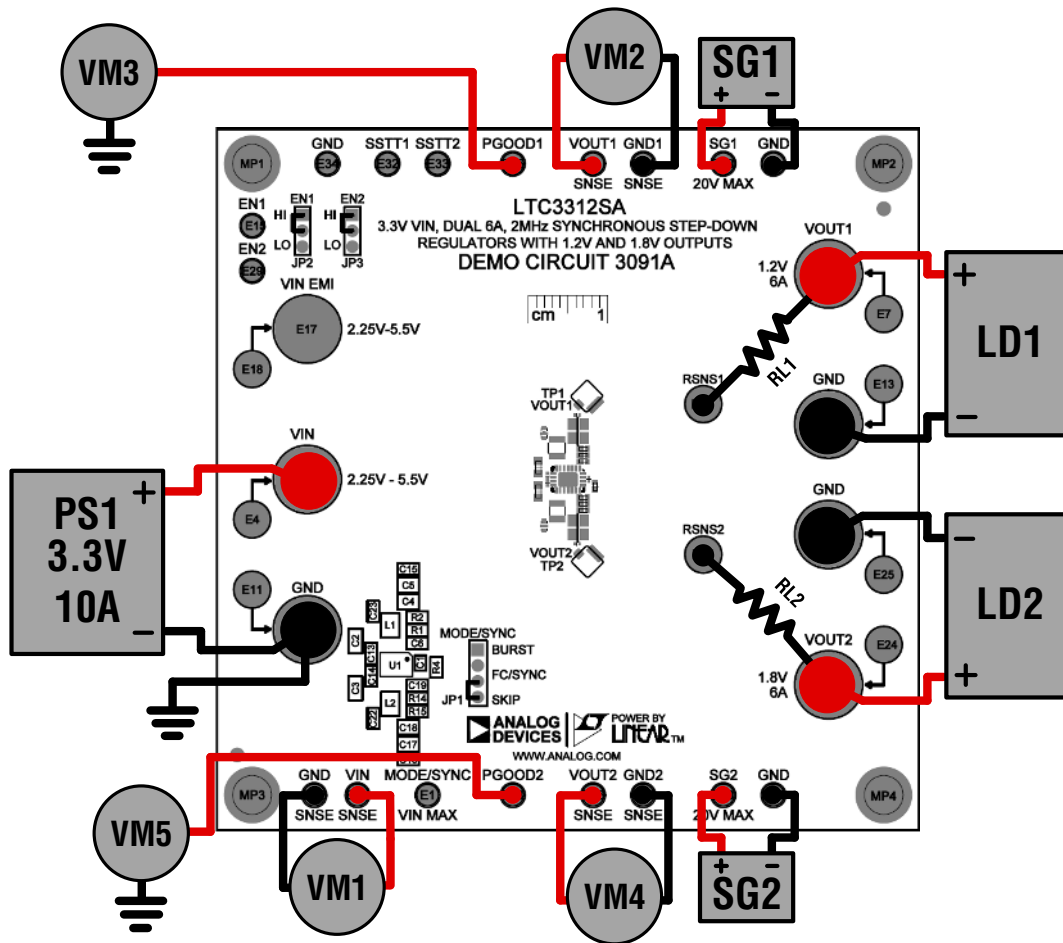

Figure 2. Test Setup for DC3091A Demo Board
Refer to Figure 2 for the proper measurement equipment setup and follow the procedure below:
1. Connect PS1, LD1, VM1, VM2 and VM3 as shown in Figure 2. If the input EMI filter is desired, connect the input power supply to VIN EMI and GND.
8. To test the transient response with a base load, add the desired resistor to produce a minimum load between VOUT and RSNS1 turrets (RL1 shown on Figure 2). Note that the total load resistance will be RL1 plus R11 (100m Ω). Adjust a signal generator with a 10ms period, 10% duty cycle and an amplitude from 1V to 2V to start.